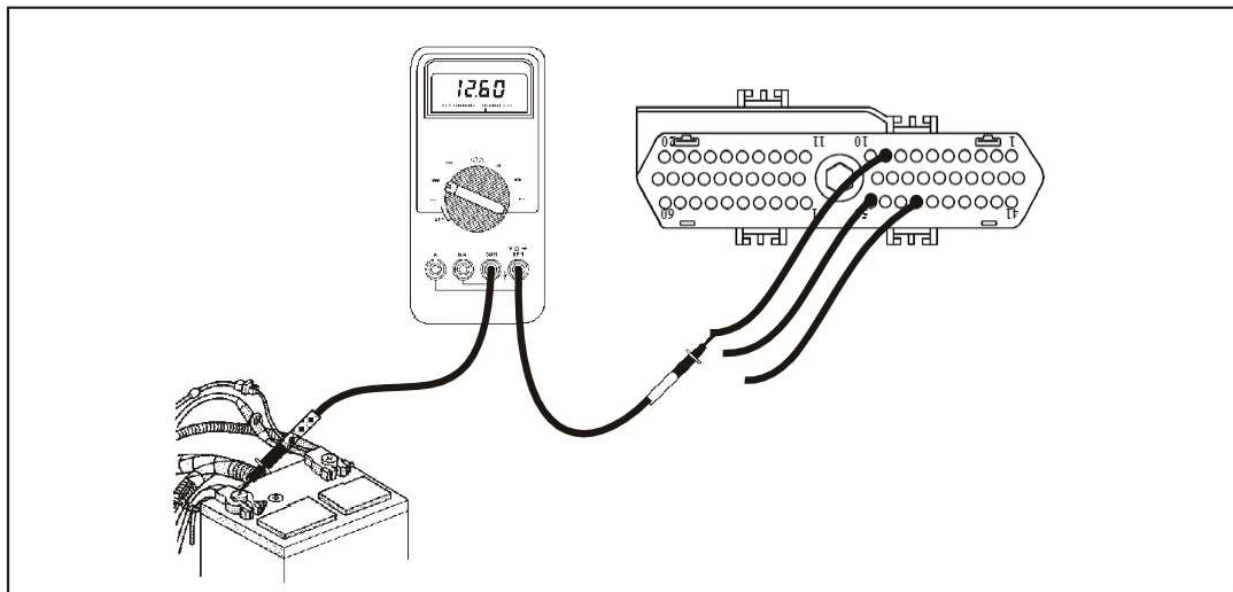

Figure 32
- With a DVOM set to DC volts, place the negative meter lead to the negative battery post. With the positive meter lead, carefully back probe wires 9, 47 and 50 (See Figure 32). Each wire should show battery voltage. ***Special Note: This method should only be employed when pressure switch codes alone are present. Other codes such as a solenoid code may cause the control to default to a limp mode status with just the ignition turned ON. Voltage would then not be observed at pins 9, 47 and 50 providing a false test.***